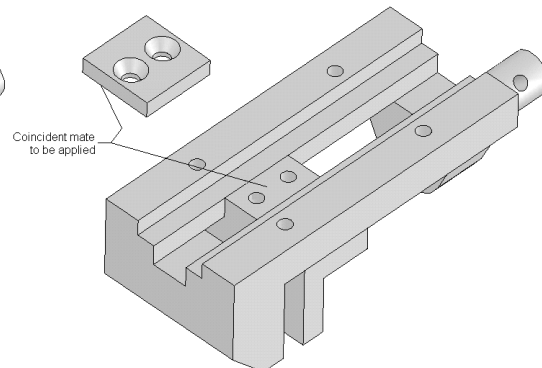

Figure 12-72 Faces to be selected to apply mate
5. Move the Clamping Plate by dragging. Now, apply the **Coincident** mate between the faces of the Clamping Plate and the Vice Jaw, as shown in Figure 12-72.